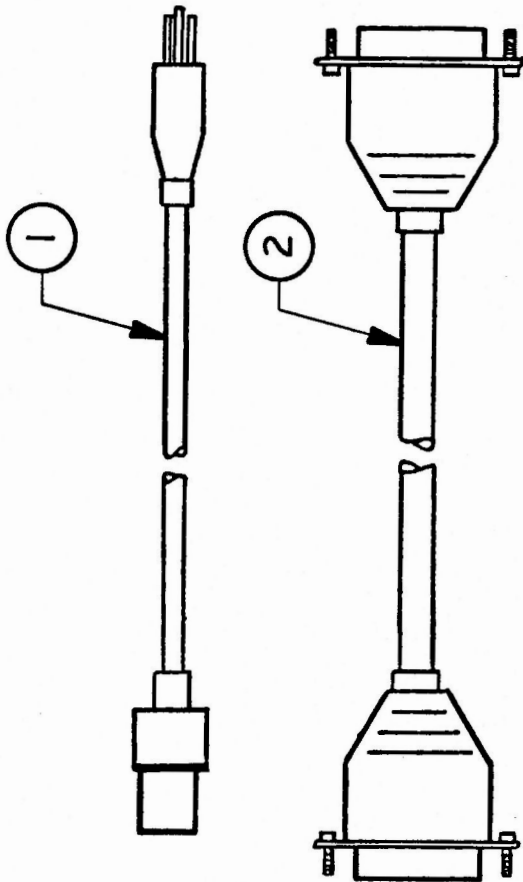

FIGURE 2
**APPLECOLOR MONITOR 100 - CABLES (Figure 2)**